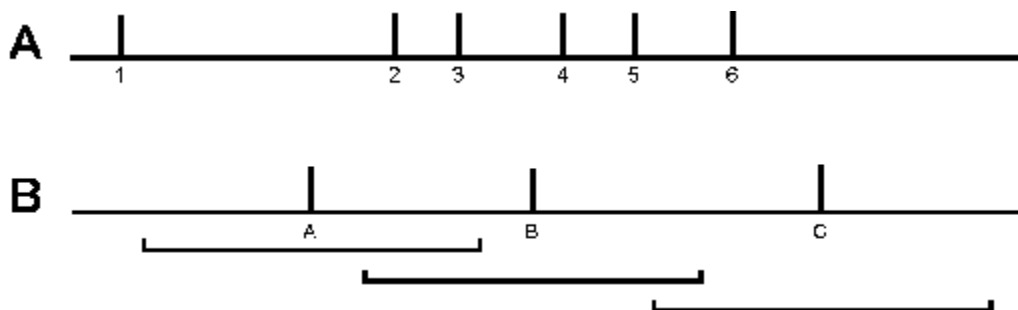

Figure H-29. An example illustrating how the Time Filter option selects target events. See text for details.
the ranges of more than one reference event. In fact, several target events may occur within the same set of reference ranges. The conventions established to deal with such situations were designed to achieve the condition in which one and only one target event corresponds to one and only one reference event. Figure H-29 is used to illustrate the process of determining which target event is made to correspond with a given reference event. To simplify the illustration only the onset times are indicated for the events occurring in the two buffers, and they are indicated by the short vertical lines emerging from a horizontal baseline. Buffer A has been selected as the reference buffer. Reference event onsets are labeled (A), (B), and (C). Event onsets in Buffer B are labeled 1 through 6. The ranges associated with each reference event onset are indicated with brackets.